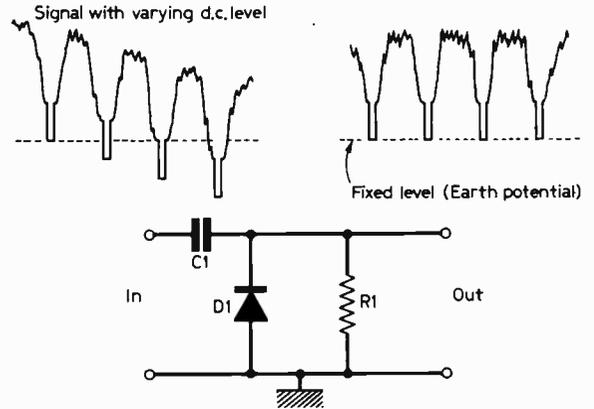

Fig. 7: Simple d.c. restorer.
D.C. restoration also connects the video signal to a fixed voltage at intervals but the intervals are no longer controlled. A simple d.c. restorer is shown in Fig. 7. Whenever the signal becomes negative to